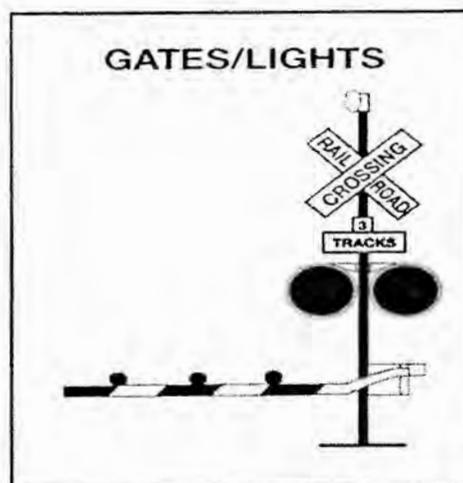

Figure 2.18
**Flashing Red Light Signals.** At many highway-rail grade crossings, the crossbuck sign has flashing red lights and bells. When the lights begin to flash, stop! A train is approaching. You are required to yield the right-of-way to the train. If there is more than one track, make sure all tracks are clear before crossing. See *Figure 2.18*.
**Gates.** Many railroad-highway crossings have gates with flashing red lights and bells. Stop when the lights begin to flash and before the gate lowers across the road lane. Remain stopped until the gates go up and the lights have stopped flashing. Proceed when it is safe. See *Figure 2.18*.